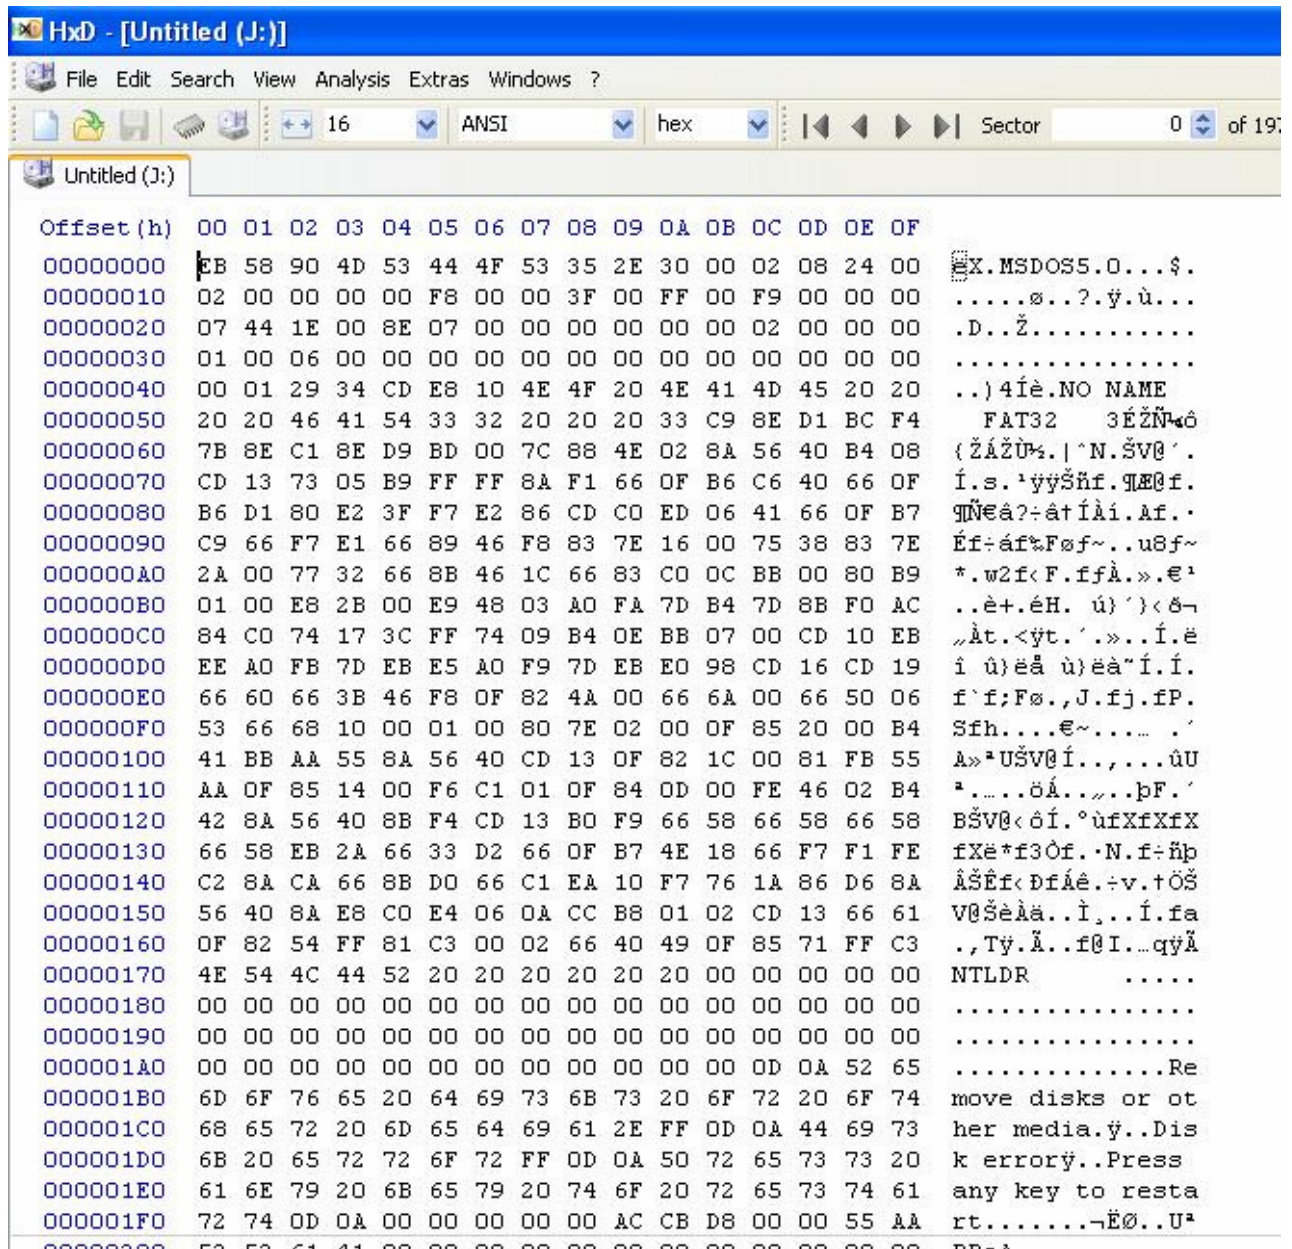

Figure 1 : File format of SD card FAT32 system
- Step 10 : Please refer to figure 1 to ensure that the read value correspond to the value below. First value shall be “EB”, last 2 values shall be “55 AA”